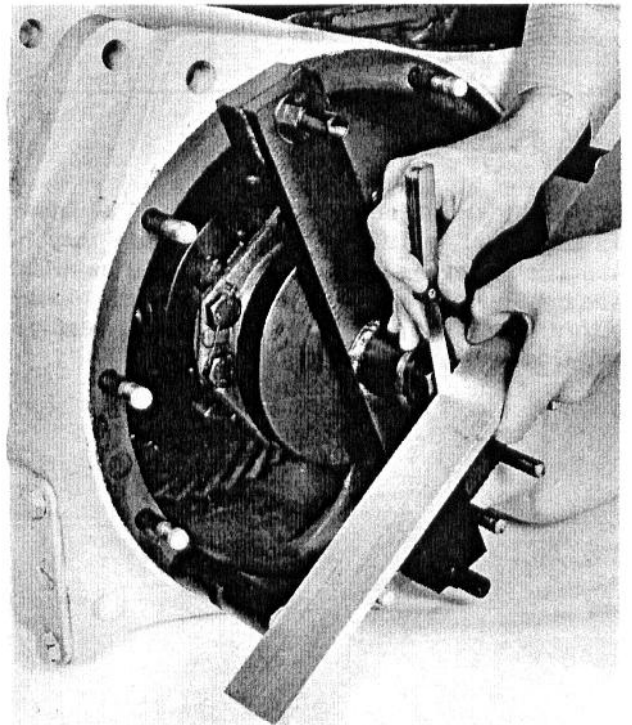

Fig. 84 - Measuring Center Pin - Straightedge Gap
10. Place the straightedge across the gauge spools, and with a feeler gauge, measure the gap between the center pin and the straight-edge. Refer to Fig. 84.